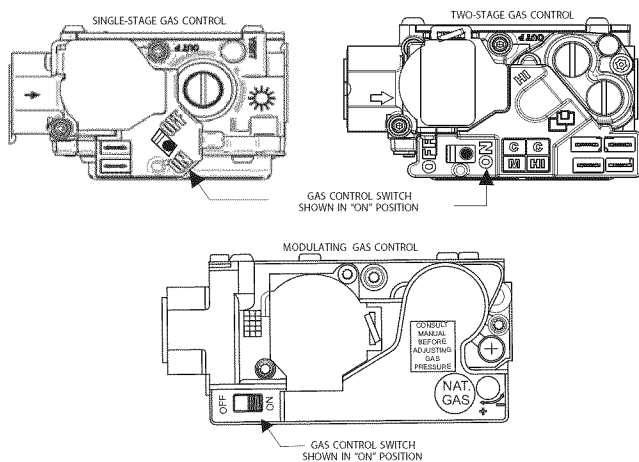

Fig. 12 - Control Switch to ON
- After waiting five minutes, turn control switch on the gas control to the ON position. Turn the control switch to ON. See Fig. 12.